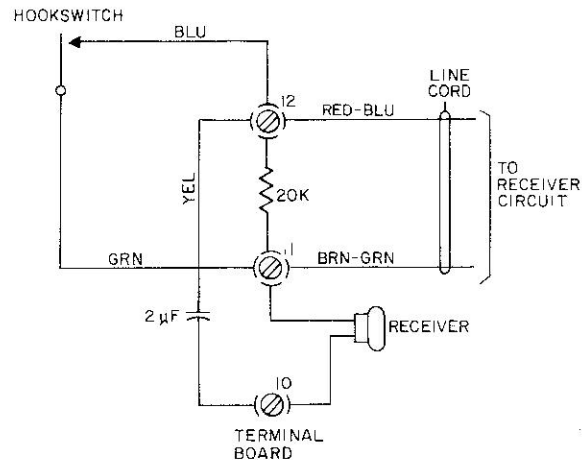

Figure 1. Modification for Two-Wire to Four-Wire Service (Three Lines).
2.02 Modify the telephone set for two-wire to four-wire service as follows (Figure 1):